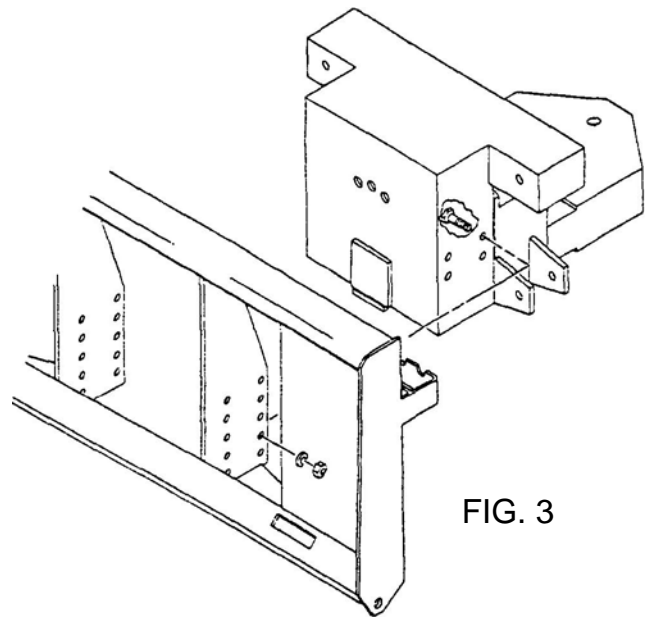

FIG. 3
- (1) Attach the sub frame and swivel to the mount. Use (4) 5/8-11 x 1 3/4 hex hd. capscrews, nuts and lockwashers on each side. The mount and swivel are made to adjust for mounting on the skid steer loaders. Use the upper set of holes when mounting the dozer for snow removal. Use the lower holes when mounting the dozer for moving material that requires more below grade cut. As shown in FIG. 3.